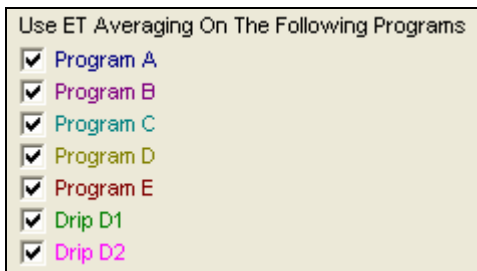

Figure 16.4.10A
- Next check the box next to each program that you want to **Use ET Averaging On The Following Programs** (Figure 16.4.10A).